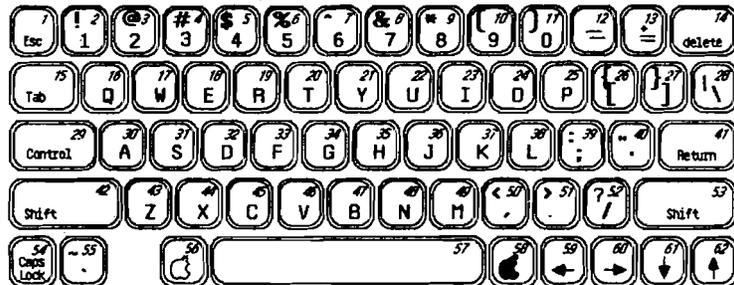

FIGURE 5
2. Using Figure 5, locate the number of the keyswitch to be replaced. If the keyswitch solder pads are covered by the stabilizer bar (on the underside), remove the bar by squeezing the plastic prong (between the circuit board and the stabilizer bar at each end) with needlenose pliers.